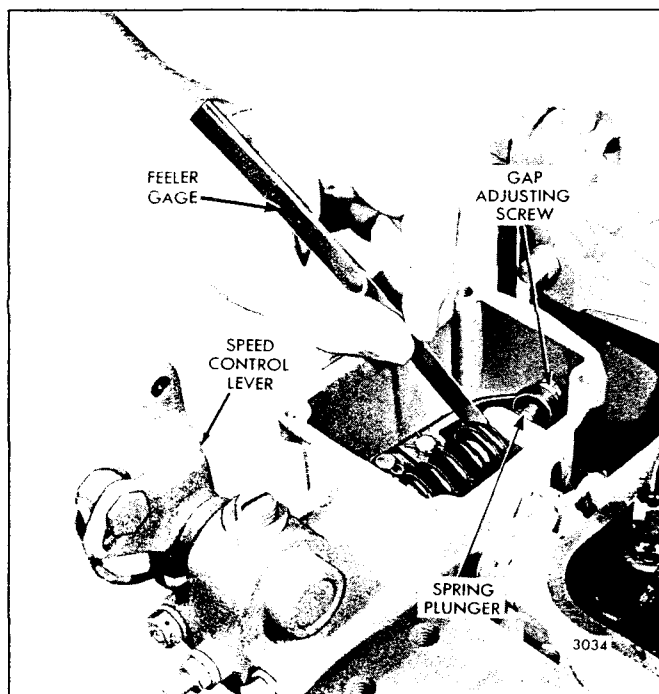

Fig. 1 - Checking Governor Gap
4. Insert a .006 " feeler gage between the spring plunger and the plunger guide as shown in Fig. 1. If required, loosen the lock nut and turn the gap adjusting screw in or out until a slight drag is noted on the feeler gage.